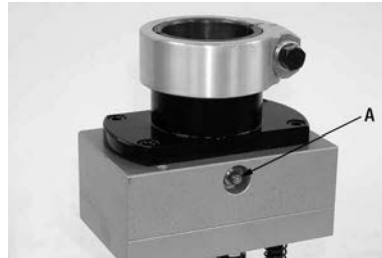

FIGURE 9
A grease fitting (A) Fig.9 located at the rear of the Hinge Boring Head Attachment is supplied for lubrication of the internal mechanism. Use a grease gun to inject 1-2 pumps of lithium grease into the grease fitting every 40 hours of operation.